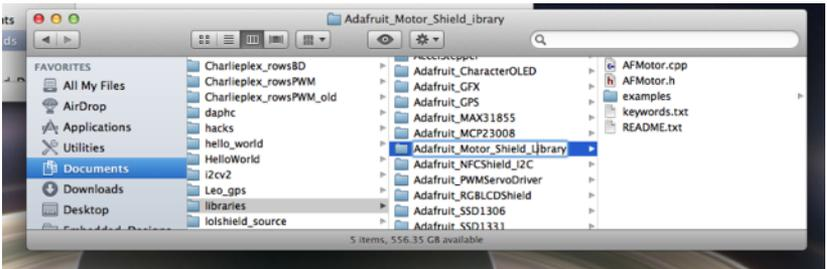

Figure 4-12. Rename the library if necessary
3. Give it a legal name. The library, if downloaded from GitHub, will have the word "master" appended to its name. Remove that from the name prior to use. Also, the IDE will not recognize folders with dashes in the name. You can replace these with underscores, as shown in Figure 4-12.